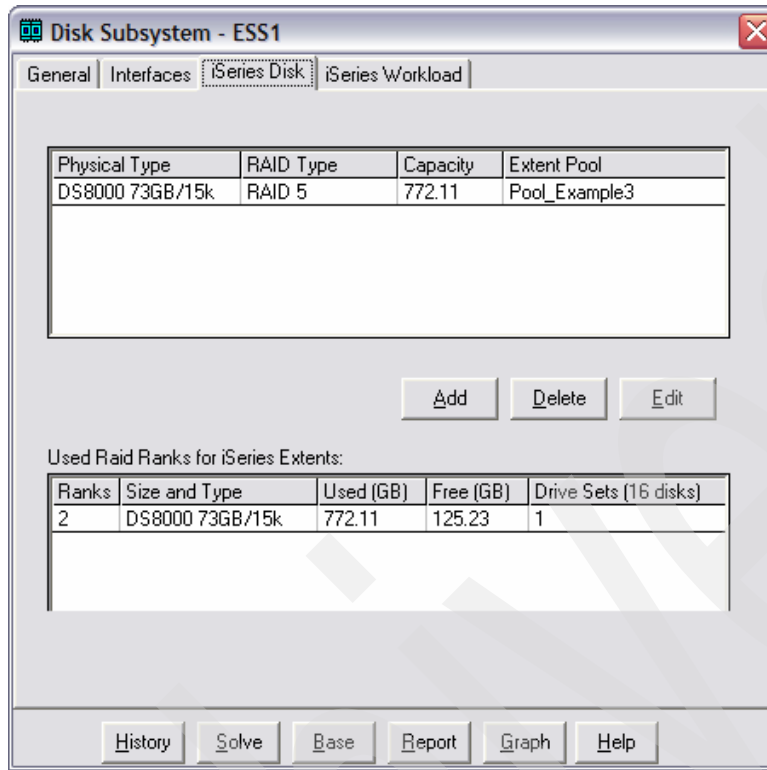

Figure 4-83 Planned capacity -1
- f. Select the iSeries Disk tab. Notice that an extent pool is already created with the same capacity as is used on ESS. See Figure 4-83. Click **Edit**.